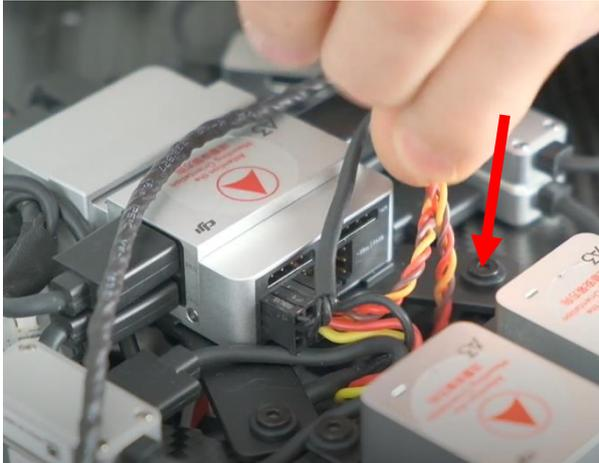

Figure 2: Long RC cable for manual deployment
- Install the long RC cable included in the DRS accessory from the A3 flight controller's port of your choice (e.g. port F3) through the openings in the center to the bottom of the UAV (see Figure 2 and Figure 3).